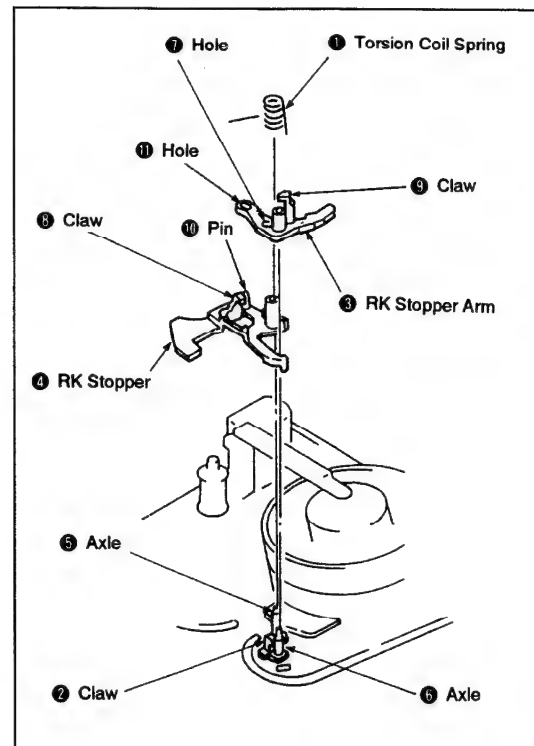

Fig. 3-7.
1. Removal (See Fig. 3-7.)
2. Installation (See Fig. 3-7.)